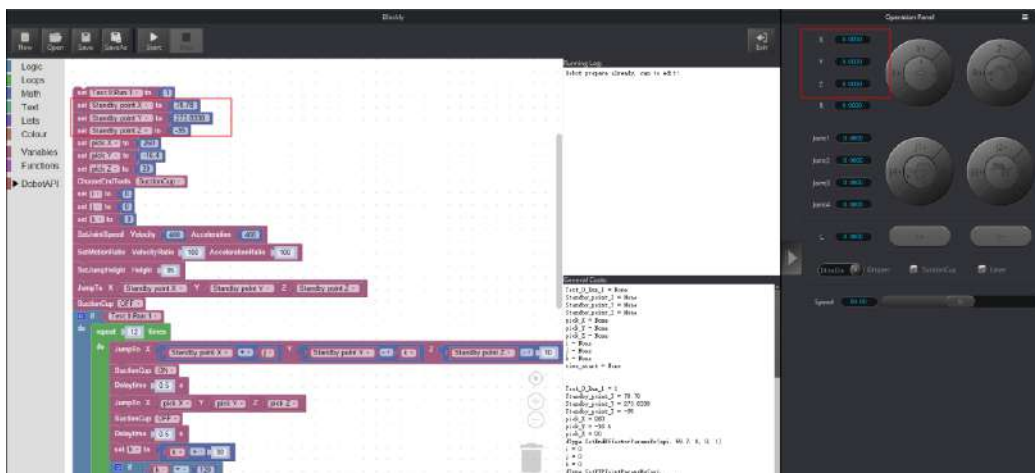

Figure 4.2 Modify the picking position
2. The operation panel on the DobotStudio will record the values of X, Y, Z axes automatically, and write the values of the X, Y, Z axes in the picking demo as shown in Figure 4.2.